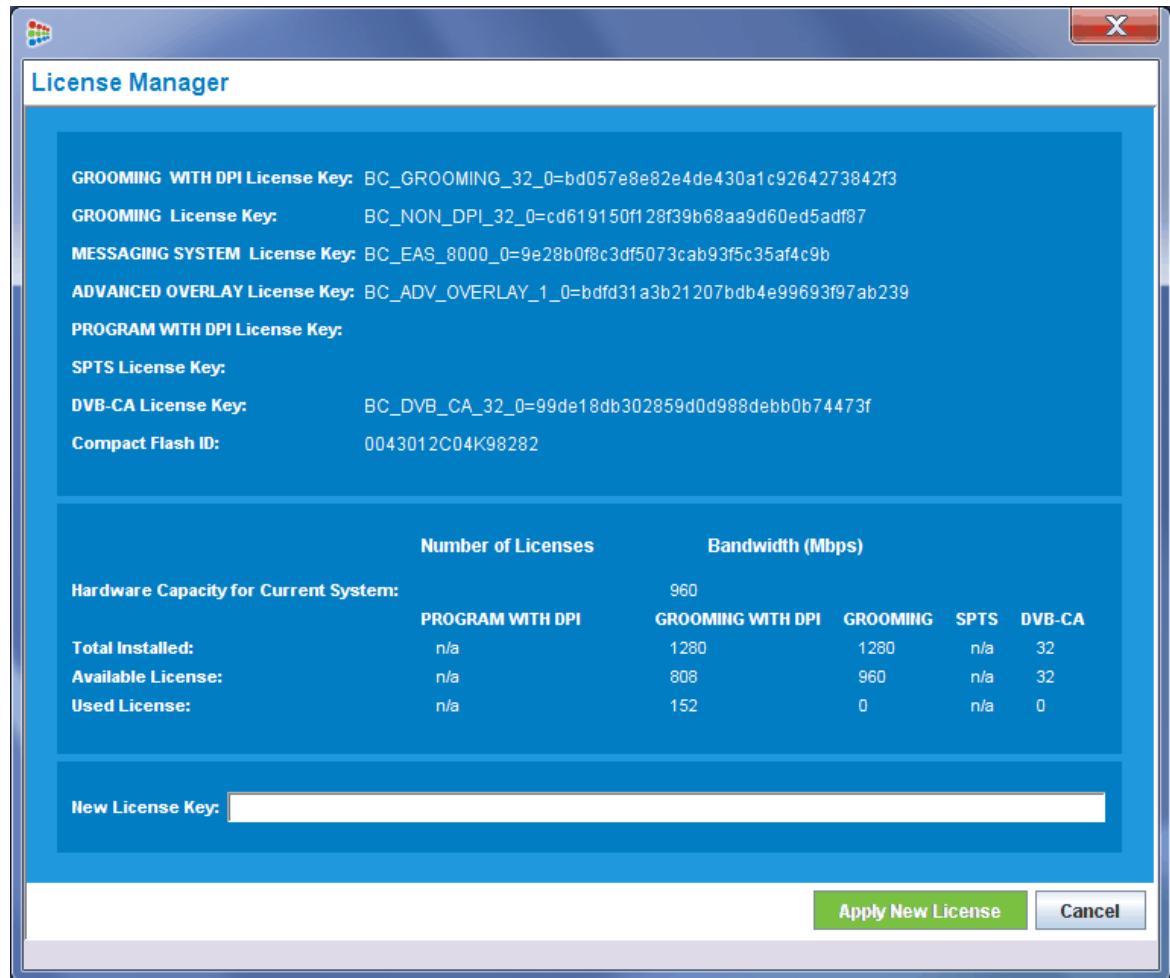

Figure 91. The License Manager
3. In the **New License Key** field, enter the license key (Figure 91).
Figure 91 shows the currently installed license key and Compact Flash ID (serial number).